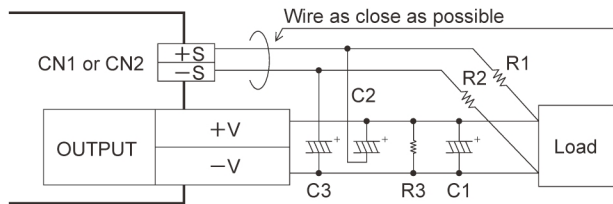

Fig. 1.4 When using remote sensing function
■ Please see Fig. 1.4 if you use the remote sensing function.
① Wire carefully. When a connection of a load line becomes loose (due to such factors as loose screw), the load current flows to the sensing line and internal circuits of the power supply may be damaged.
② Use a sufficiently thick wire to connect between the power supply and the load and keep the line drop at 0.3V or below.
③ Use a twisted pair wire or a shielded wire as the sensing line.
④ Do not draw the output current from +S or -S.
⑤ When the remote sensing function is used, the output voltage of the power supply may show an oscillating waveform or the output voltage may dramatically fluctuate because of an impedance of wiring and load conditions.